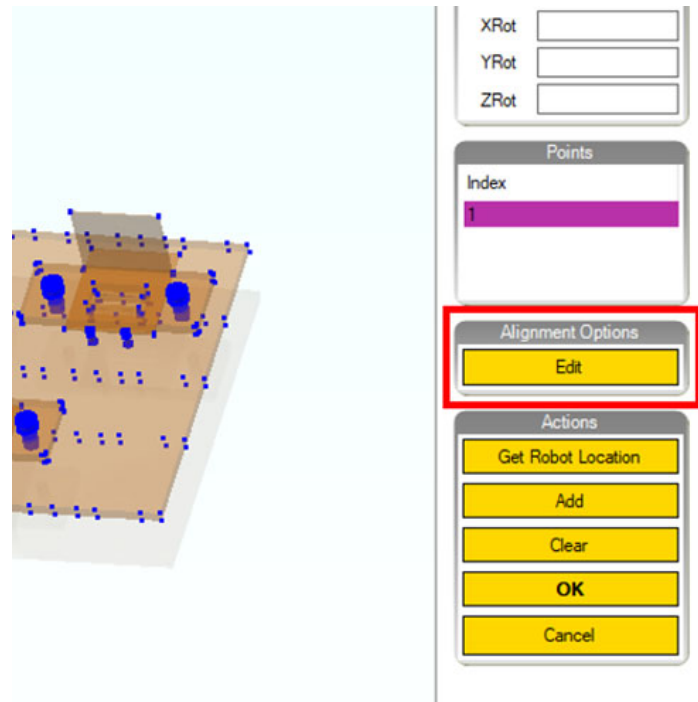

Figure 291: Opening the Alignment Options Window
1. Within the STL Alignment window, users have the ability to set Alignment Options. Click "Edit" to open the Alignment Options Window. See Figure 291 (below).